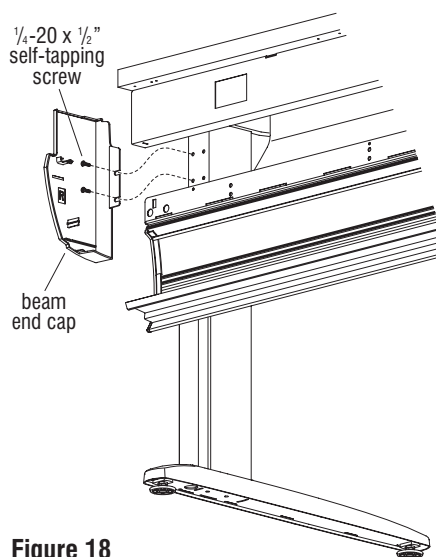

Figure 18
1. At the end of each row, snap the beam end cap into the open end of the rectangular beam and data trough. Secure the end cap to the leg as illustrated with two $\frac{1}{4}$ -20 x $\frac{1}{2}$ " self-tapping screws (Figure 18).